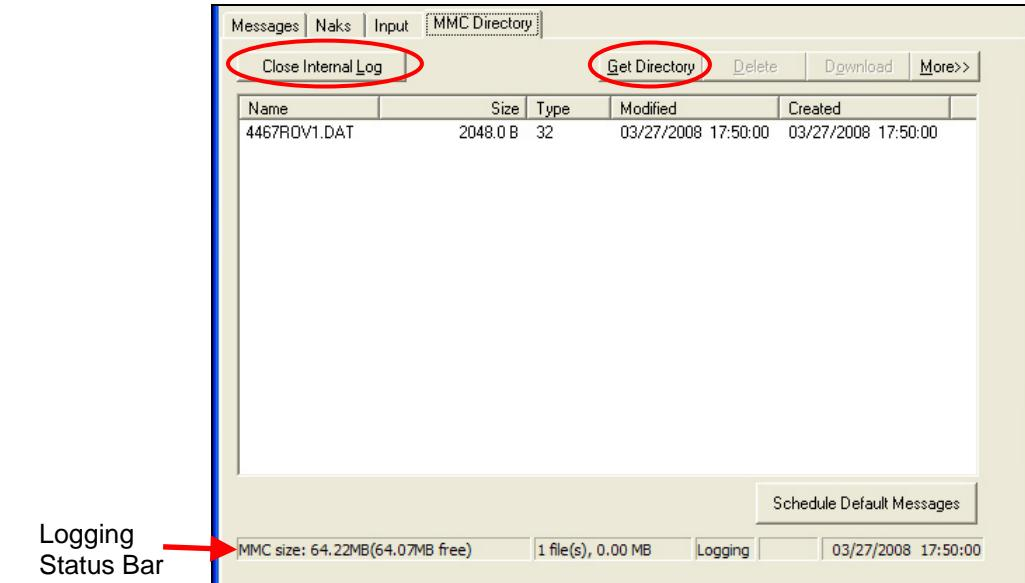

Figure 111: MC Directory Internal Logging
- ✓ Click Ok. Logging starts. The data file is displayed in the *MMC Directory*. The *Start Internal Logging* button changes to the *Close Internal Log* button. A status bar opens at the bottom of the window. Refer to Figure 111.